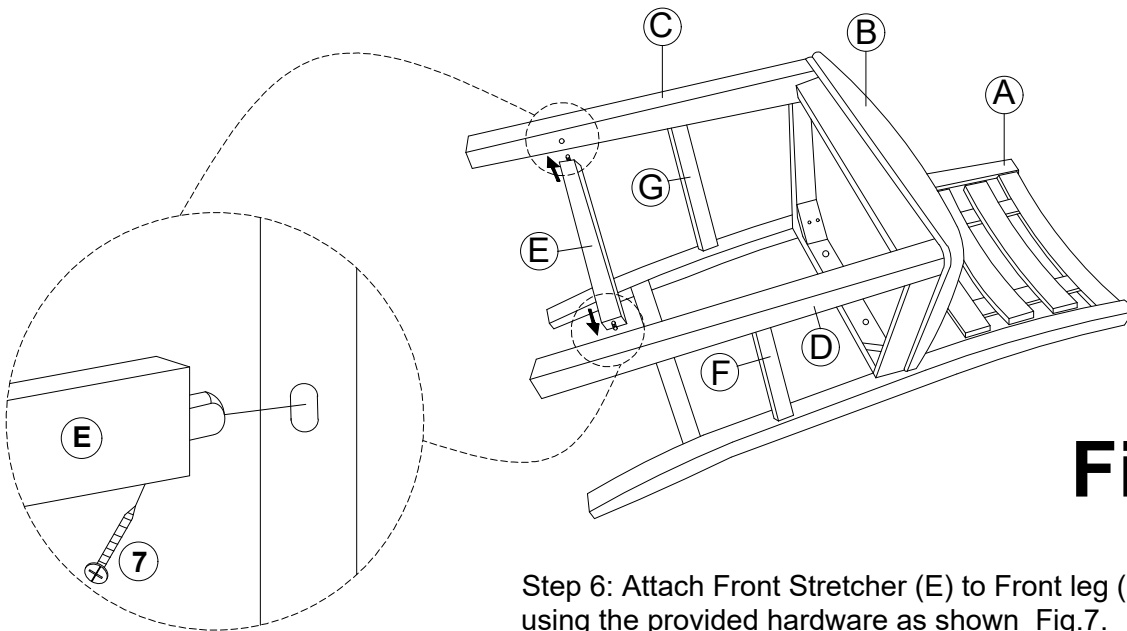

Fig. 7
Step 6: Attach Front Stretcher (E) to Front leg (C) and (D) using the provided hardware as shown Fig.7.